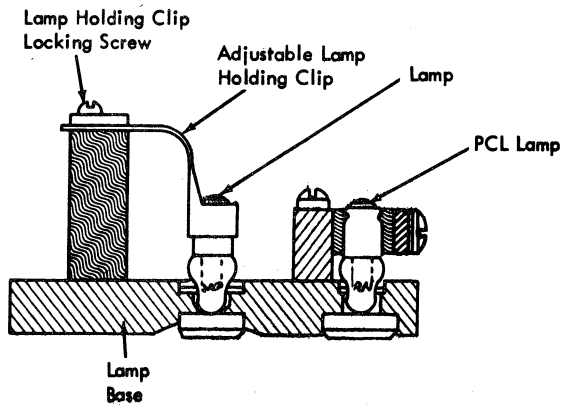

Figure 4-12. Read Station
2. Remove lamp and clip (Figure 4-12).